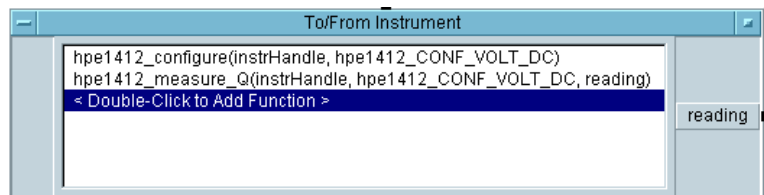

Figure 112 HPE1412 Driver Ready for a DC Reading
- 9 Click **OK**. A second function call is listed in the To/From Instrument object as shown in Figure 112.